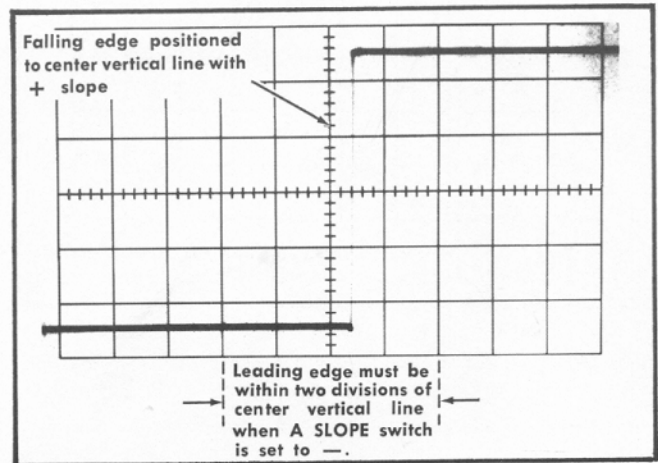

Fig. 6-64. Typical CRT display when checking calibrator duty cycle.
- g. CHECK—50% point on rising edge now displayed not displaced more than two divisions from the center vertical line (duty cycle 49% to 51%; see Fig. 6-64).